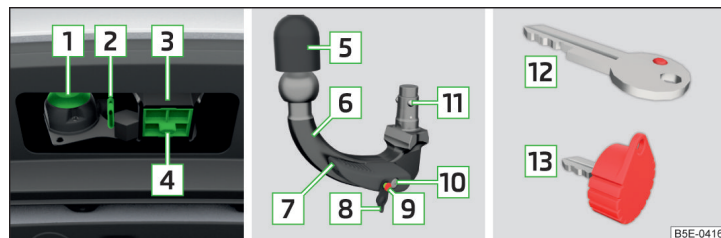

Fig. 160 Support for the hitch equipment / ball bar / key (Version 1 and 2)
Support for the towing device/tow bar » Fig. 160
- Remove the cover for the mounting recess **4** » Fig. 160 on page 165 in a downwards direction.